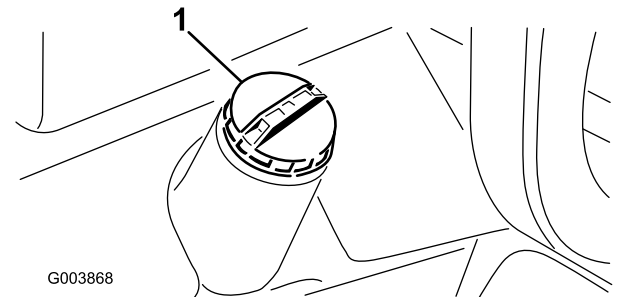

Figure 26
1. Remove the fuel tank cap (Figure 26).